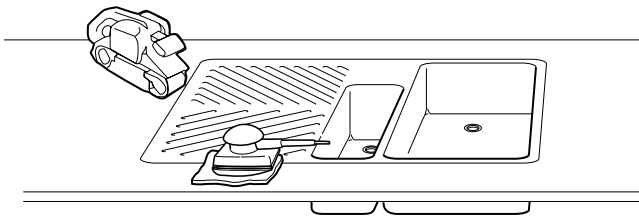

Figure 10
9. Using a belt sander, level the edge of the bowl with the sheet (see Figure 10).